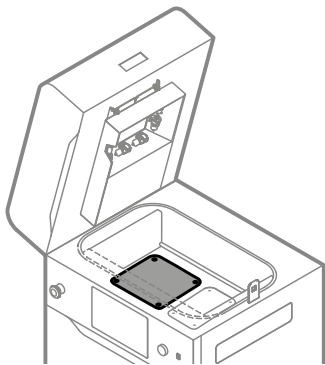

Fig. 12.40 Put on the Feed Bed cover.
23. Put on the Feed Bed cover (fig. 12.40).